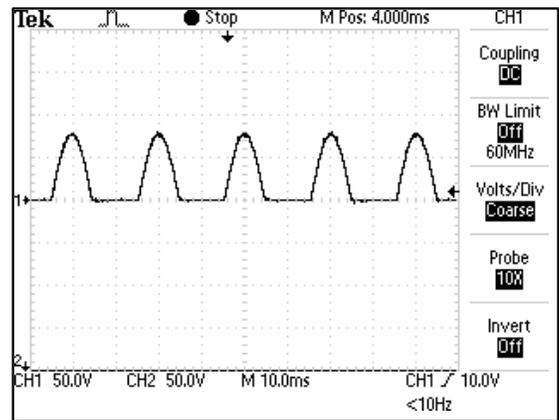

Figure 5.15
N. DIADYNAMIC WAVEFORMS (Figure 5.15)